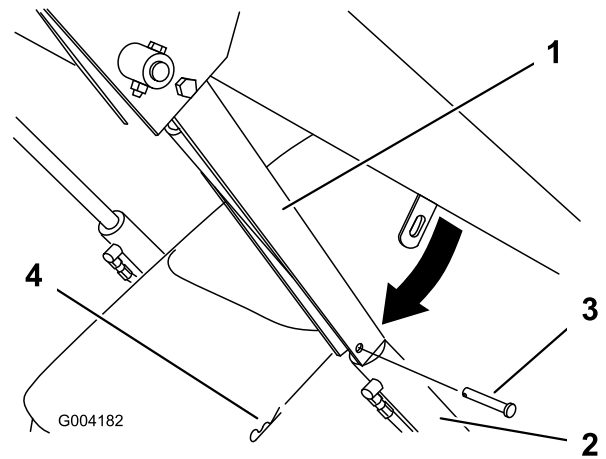

Figure 13
4. Remove the hairpin cotter and clevis pin securing the cylinder lock to the loader arm (Figure 13).
5. Lower the cylinder lock over the cylinder rod and secure it with the clevis pin and hairpin cotter (Figure 13).